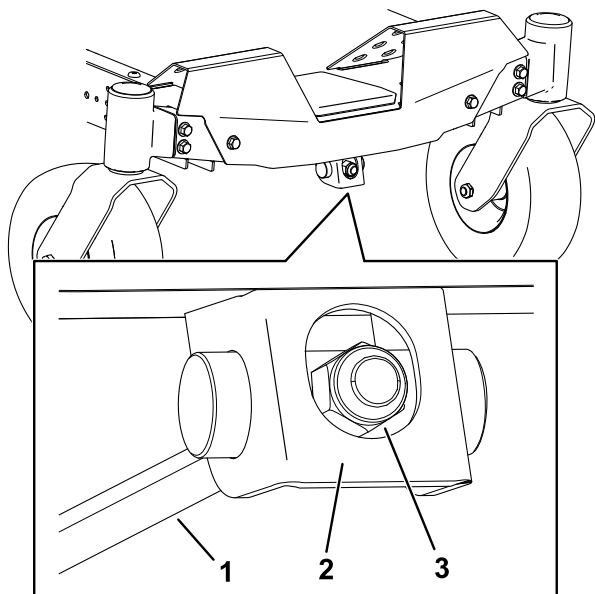

Figure 63
1. Rotate the adjustment nut in the front of the mower (Figure 63).